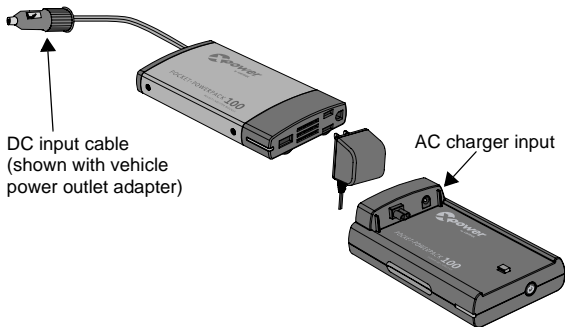

Figure 7 Charging the Powerpack from a Vehicle
6. Insert the DC input cable into the vehicle or airplane 12 V outlet. See Figure 7.